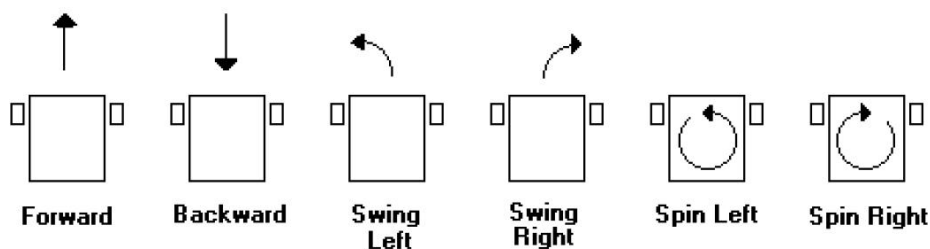

Figure 3.2: The remote control should use all of these actions
1. *High Level Preparation*: Figure 3.2 shows all of the different actions that the remote control should accept.